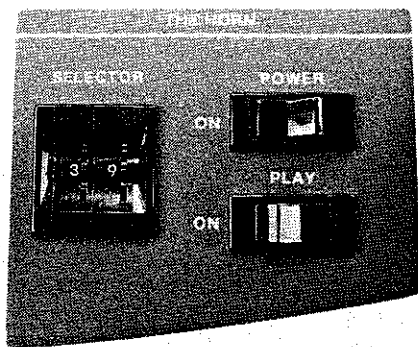

Figure 2-3. "The Horn".
②⑨ **AUX. BATTERY Switch** — When this switch is pressed, a jumper solenoid connects the generator and coach batteries together (in parallel) to provide extra power for cranking the generator or coach. Releasing the switch immediately isolates the two battery systems.
③⑩ **THE HORN**, Figure 2-3 — This corner of the dash has 3 different switches for use with the musical horn.